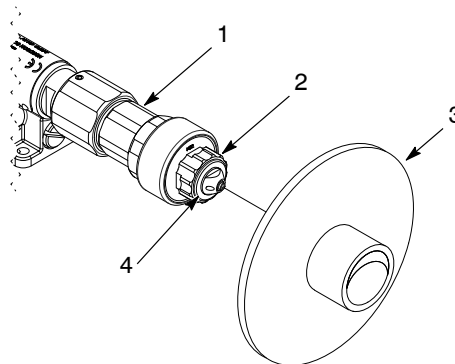

Figure 1 Single-use CleanSleeve Cover Installation
1. See Figure 1. Slide the CleanSleeve cover (3) over the front of the spray gun (1). Make sure that the CleanSleeve cover is firmly seated against the nozzle nut (2) and the nozzle nut boss (4) protrudes through the cover opening.